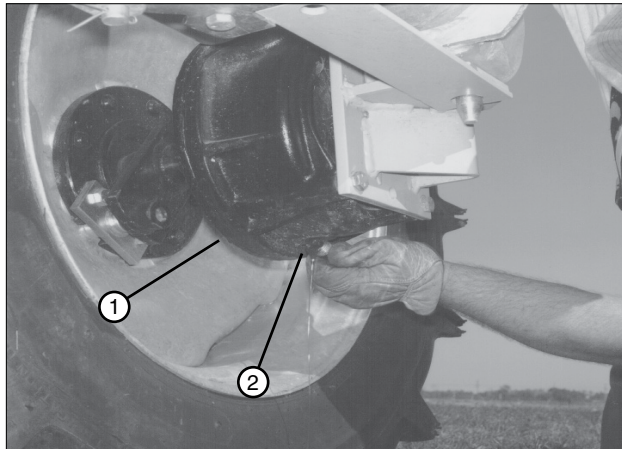

Figure 74-1 1. Wheel Gearbox
3. Remove the drain plug from the bottom of the wheel gearbox and drain the oil into a container. See Figure 74-1.